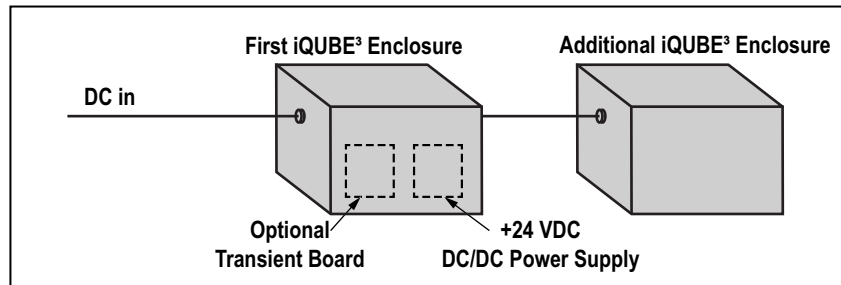

Figure 1-3. iQUBE³ with Internal 9-36 VDC Power Supply
- Internal 9-36 VDC power supply (Figure 1-3)